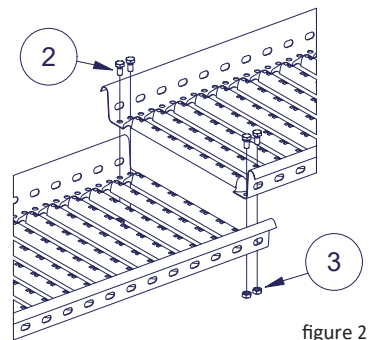

figure 2
- The extension of the walkways shall be done by overlapping and securing the connection from both sides by using 2 pcs of M8x16 hexagonal bolts and M8 hexagonal nuts (figure 2).